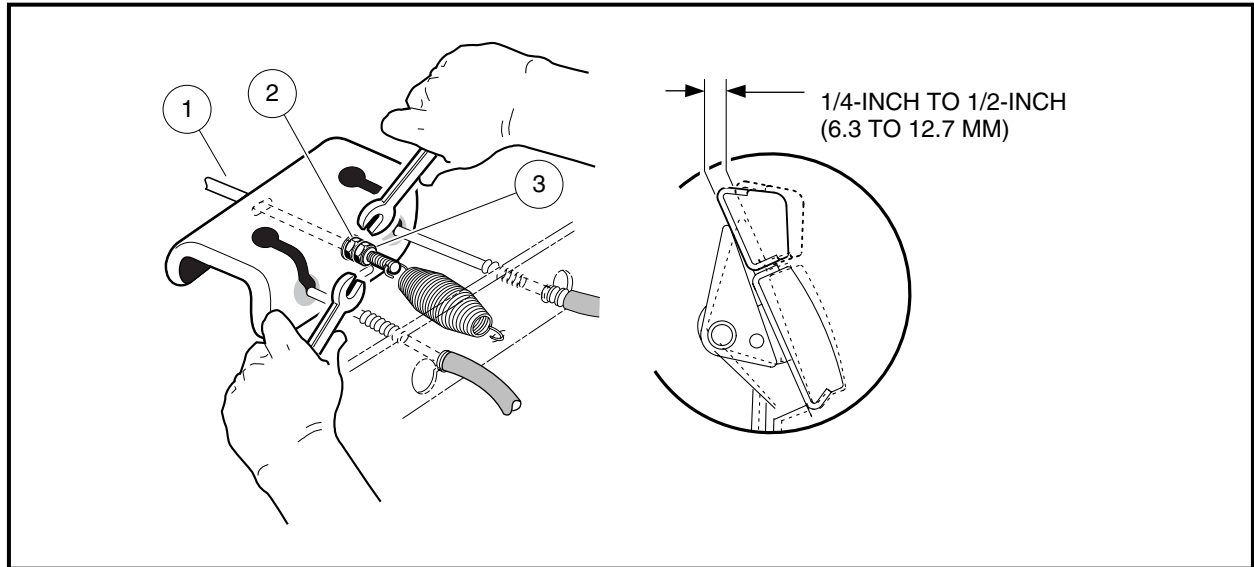

Figure 6-18 Brake Pedal Free Play Adjustment
- 3.1. Measuring perpendicular from the floorboard to the back of the brake pedal, depress the brake pedal and measure the distance that the pedal moves before all of the slack is taken out of the brake cables (**Figure 6-18, Page 6-9**).